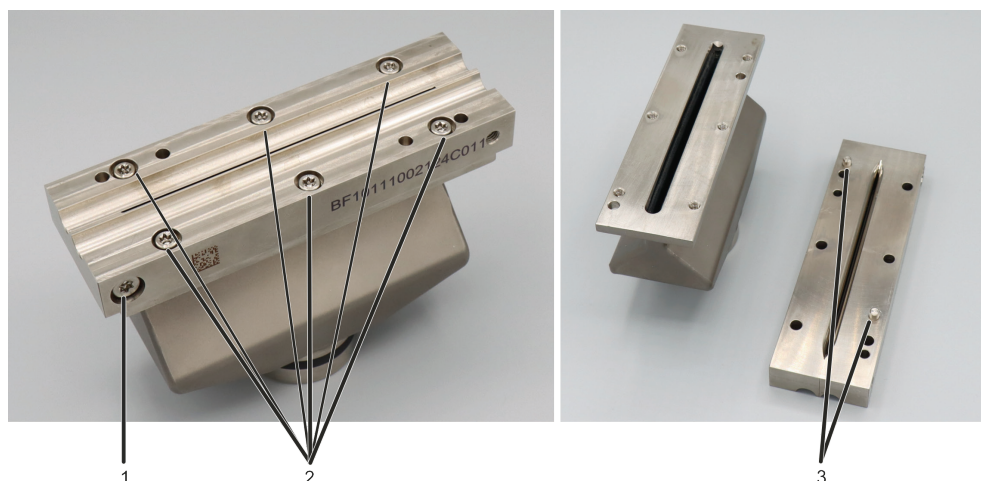

Fig. 63 Screw joints of the burner
1. Undo the screw joints (item 2 in Fig. 63) of the burner jaws on the burner body and remove the burner jaws.
4. Screw the burner jaws onto the burner body. The dowel pins (item 3 in Fig. 63) on the burner ensure correct positioning.